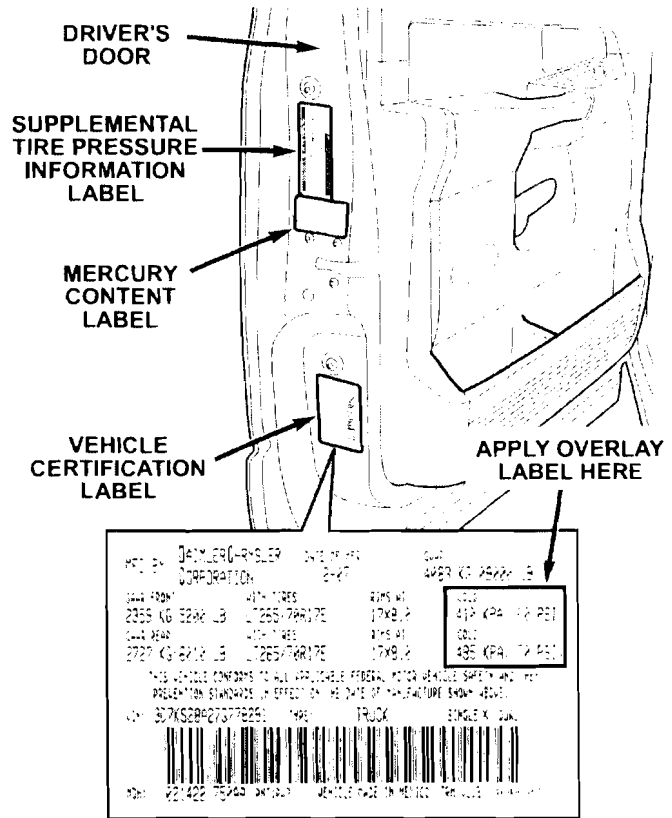

Figure 1
1. Open the driver's door and locate the Certification label on the driver's door as shown in Figure 1.
3. Remove the enclosed Certification label overlay from its paper backing and carefully install it on the Certification label, covering the incorrect tire inflation pressure information (Figure 1). Firmly press and smooth the label to the surface of the Certification label to ensure good adhesion.
4. Locate the Supplemental Tire Pressure Information label on the driver's door (Figure 1).
6. Remove the enclosed Supplemental Tire Pressure Information label from its paper backing and carefully install it over the original label (Figure 1).